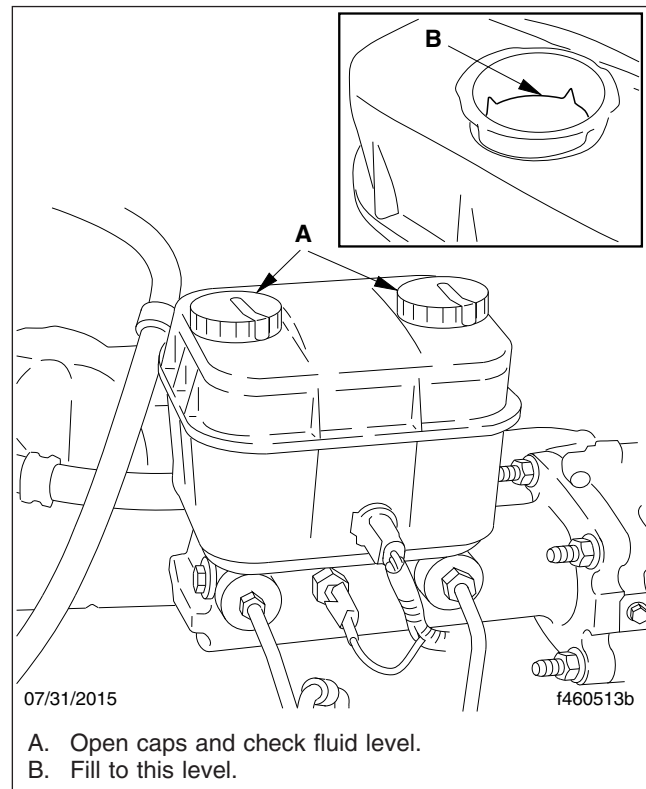

Fig. 9, Hydraulic Brake Fluid Reservoir
1. Check the fluid level in the hydraulic brake fluid reservoir. If needed, fill the reservoir up to the ridge that surrounds the reservoir. See **Fig. 9**. Use only heavy-duty brake fluid, DOT 3.